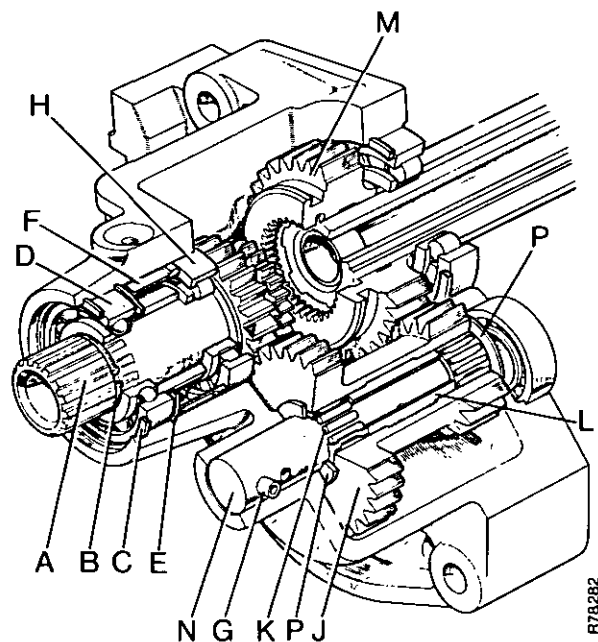

FIGURE 72. SLOW/NORMAL GEARS
10. Remove the front plate and the slow/normal gears. Remove the slow/normal driven gear M, Figure 72 and selector from the front plate.